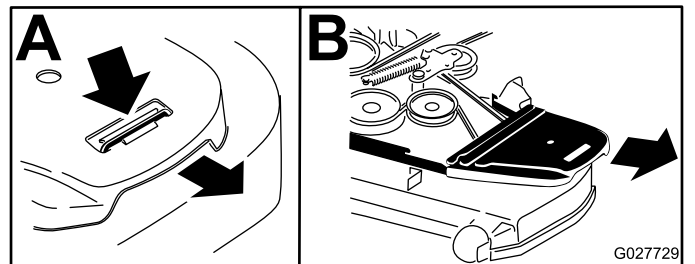

Figure 60
5. Completely loosen the bolts securing the belt covers and remove the belt covers (Figure 60).